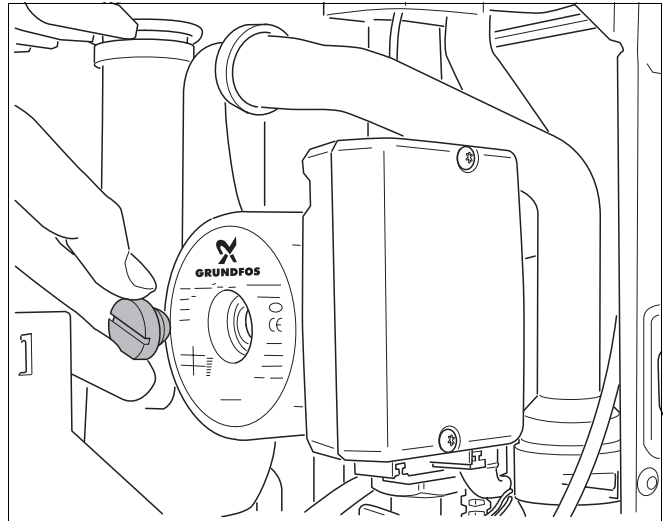

fig. 79 Checking the pump
- Remove screw plug on the pump (→ fig. 79).